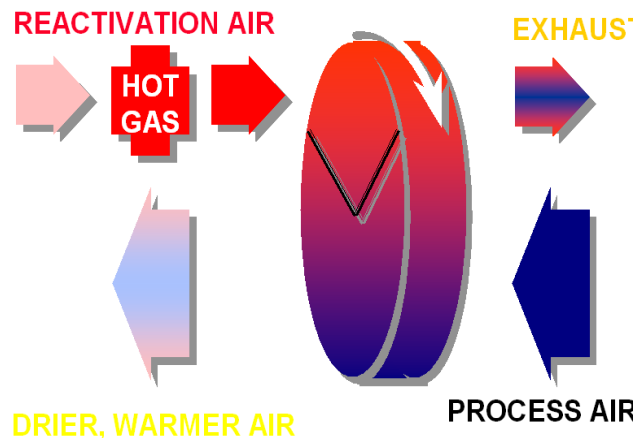

Figure 2-9 Solid Desiccant
- 1) **Solid Desiccants** (*Figure 2-9*)